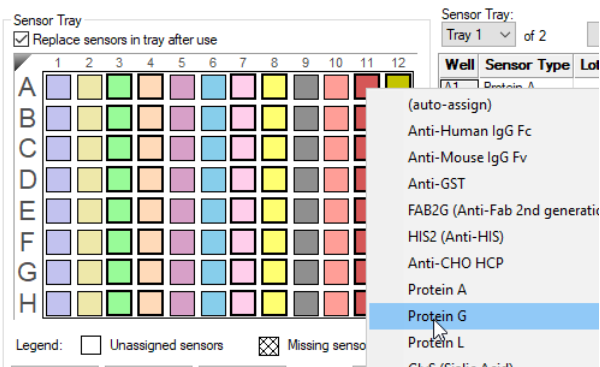

Figure 6-38: Populating the Sensor Tray Map with Second Biosensor Type
4. Select the columns in the **Sensor Tray Map** that should contain the second biosensor type, right-click and select the second biosensor type (see Figure 6-38).